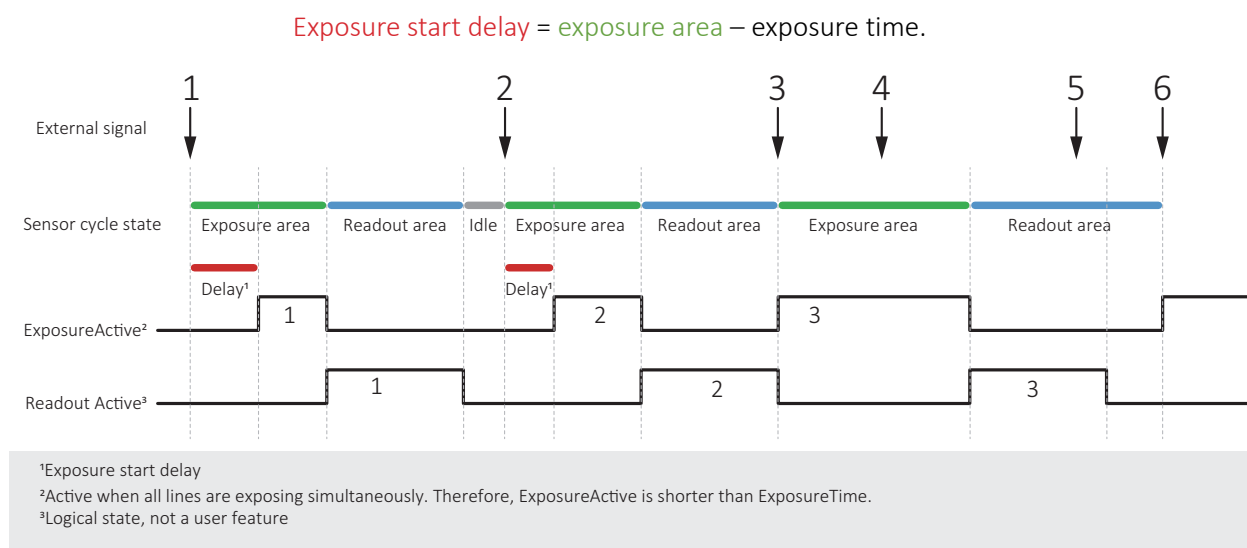

Figure 72: Triggering rolling shutter (RS) cameras
This section describes triggering behavior for **1800 U-500m/c, U-501m NIR, U-1240m/c, and U-2050m/c**. Figure 72 shows how an external signal triggers exposure and readout for cameras with rolling shutter (RS) sensors. Like for global shutter (GS) sensors, readout has a constant duration, acquisition must be active to enable exposure, the end of exposure starts readout.